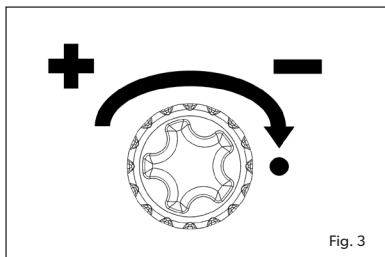

Fig. 3
- Turn the control knob on the Dual Power Pak anti-clockwise to increase the gas flow (Fig. 3).